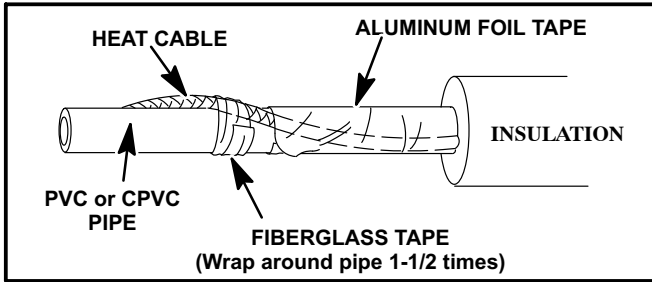

FIGURE 2
- After wrapping heat cable around pipe, secure cable to the pipe using fiberglass tape. Wrap tape around the pipe and cable using approximately 1-1/2 wraps every foot. See figure 2. **Do not use electrician's tape, duct tape, vinyl tape, metal clamps or any wire.** Heat from the cable breaks down adhesive properties of these tapes.
- 4 - Apply aluminum foil tape in linear strips over pipe and cable. **Do not spiral wrap foil tape over pipe.** It may be necessary to fold one strip up from the bottom and one strip down from the top of the pipe to ensure complete coverage. See figure 2.
- 5 - Insulate pipe using fiberglass insulation or equivalent, i.e. Armaflex. For protection to 0°F use minimum of 1/2" fiberglass insulation or equivalent (i.e. Armaflex.) For protection to -20°F, use 1" fiberglass insulation or equivalent. For protection to -40°F, use 1-1/2" fiberglass insulation or equivalent. See figure 2.